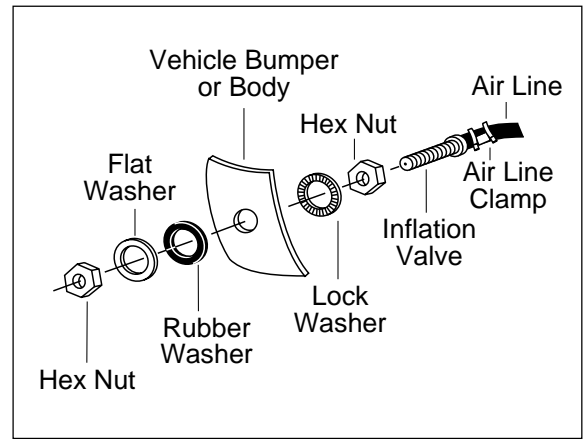

Figure 8
9. Drill $\frac{5}{16}$ " hole for inflation valve and mount as in illustration (Figure 8). Rubber washer is for outside weather seal.
- Drill $\frac{5}{16}$ " hole for inflating valves and mount as illustrated. Rubber washer is for outside weather seal (Figure 8).